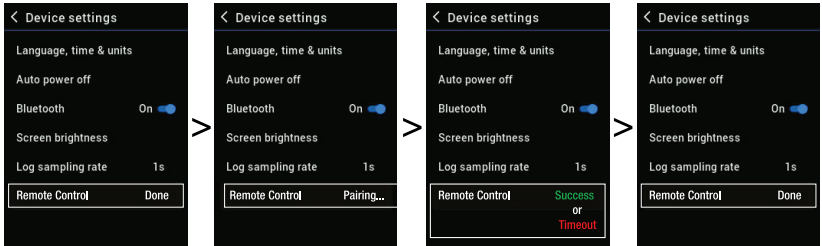

Figure 15.2 Remote controller pairing screens in the Device Settings menu.
6. Press and hold both TA93 buttons and monitor the DM266 screen for status (see Figure 15.2. below).